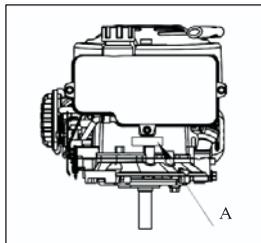

Fig. 15
13.1 SERIAL NUMBER LOCATION (See Fig. 15)